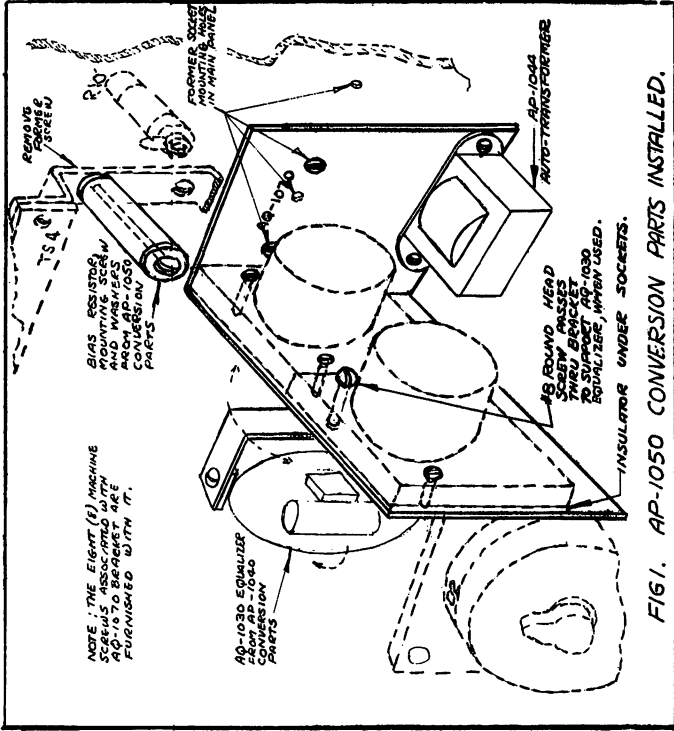

FIG. 1. AP-1050 CONVERSION PARTS INSTALLED.
- 3.1 When using the 300-B Vacuum Tubes for this modification, it is necessary to modify the socket mounting of the amplifier tubes, as shown in Fig. 1, and make wiring changes as follows:
- e. Fasten tube socket mounting holes as shown in Fig. 1.
3.3 Remove Rig (575 ohms) and replace with DHA 1000 ohm adjustable resistor. Mount this resistor at right angles to panel, as shown in Fig. 1 by means of 8/36 x 3/4 round head iron machine screw, steel washer and two asbestos washers using tapped hole in right-hand bracket supporting TSH. Unsolder the leads from present Rig resistor and solder them to new resistor. Adjust value of new resistor to 825 ohms by sliding contact.